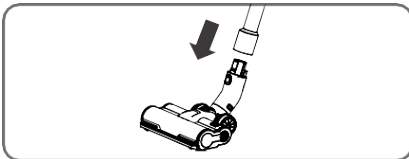

Figure 3
- Push one end of the circular opening of the brush into the end of the air expulsion tube making sure it is fully seated and securely seated. The installation is complete (Figure 3).